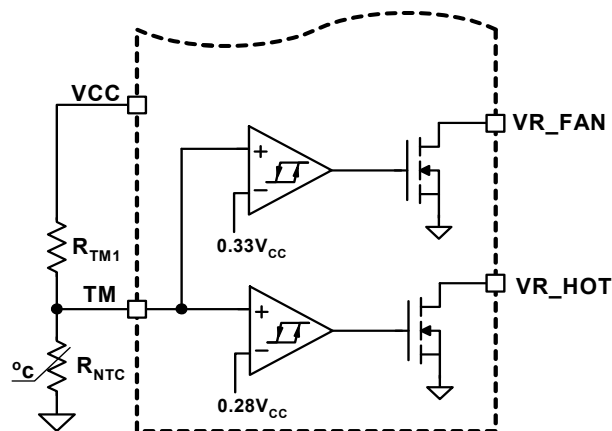
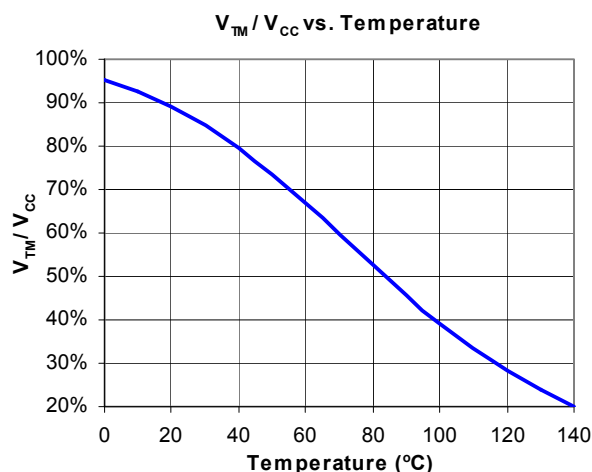

FIGURE 15. BLOCK DIAGRAM OF THERMAL MONITORING FUNCTION
FIGURE 16. THE RATIO OF TM VOLTAGE TO NTC TEMPERATURE WITH RECOMMENDED PARTS
The diagram of thermal monitoring function block is shown in Figure 15. One NTC resistor should be placed close to the power stage of the voltage regulator to sense the operational temperature, and one pull-up resistor is needed to form the voltage divider for TM pin. As the temperature of the power stage increases, the resistance of the NTC will reduce, resulting in the reduced voltage at TM pin. Figure 16 shows the TM voltage over the temperature for a typical design with a recommended $6.8\text{k}\Omega$ NTC (P/N: NTHS0805N02N6801 from Vishay) and $1\text{k}\Omega$ resistor RTM1. We recommend using those resistors for the accurate temperature compensation.
Based on V_{CC} voltage, ISL6307 converts the TM pin voltage to a 6-bit TM digital signal for temperature compensation. With the non-linear A/D converter of ISL6307, TM digital signal is linearly proportional to the NTC temperature. For accurate temperature compensation, the ratio of the TM voltage to the NTC temperature of the practical design should be similar to that in Figure 16.
1. Properly choose the voltage divider for TM pin to match the TM voltage Vs temperature curve with the recommended curve in Figure 16;